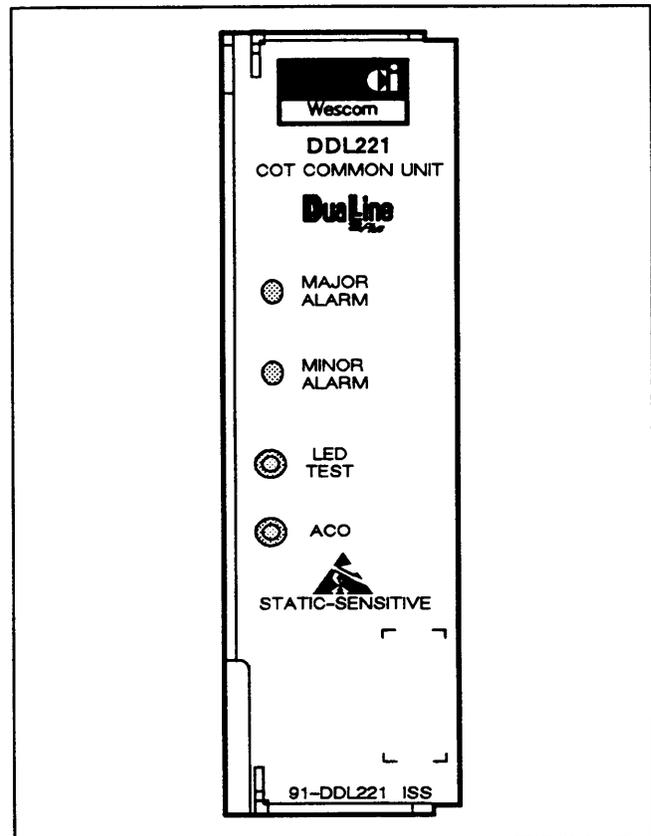

Figure 10. DDL221 COT Common Unit
4.06 The Wescom DDL221 COT Common Unit, depicted in Figure 10, provides following features: